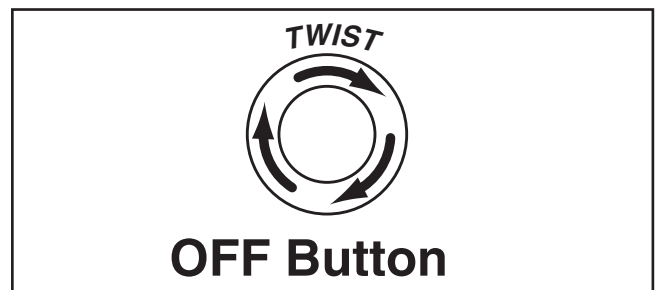

Figure 21. Resetting the switch.
7. Twist OFF button clockwise so it pops out. When OFF button pops out, switch is reset and ready for operation (see **Figure 21**).